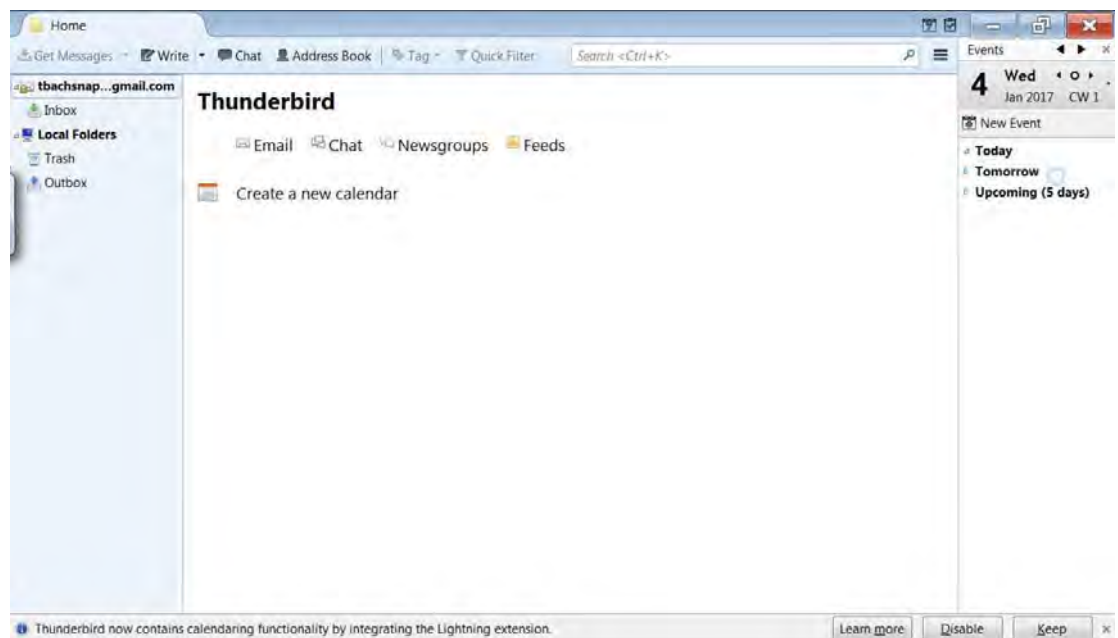

Figure 11-15
8. Once the client has successfully linked to your address, you can begin using the new e-mail client software on the diagnostic tool (Figure 11-15).